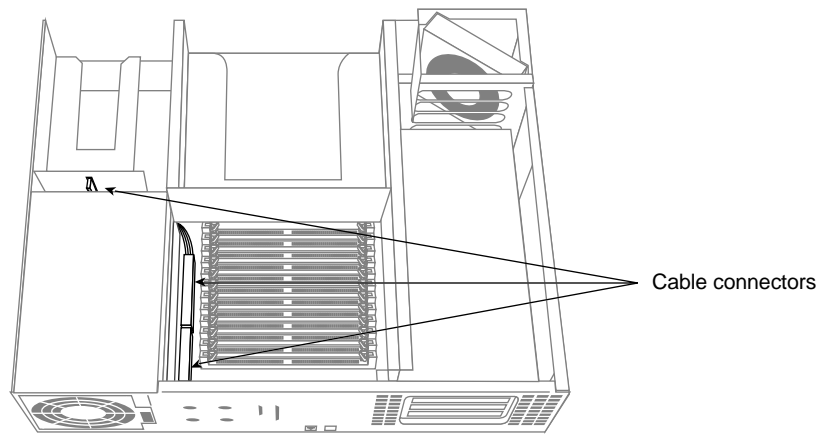

Figure 2-6 Disconnecting the Power Supply Cables
5. Disconnect the motherboard and system drive power supply cables as shown in Figure 2-6.